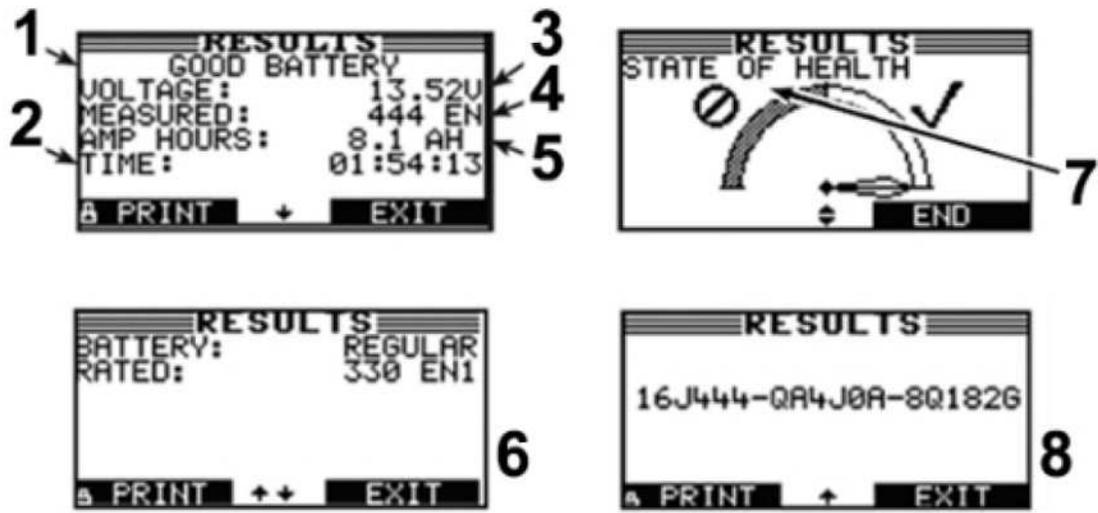

Fig. 5
3. Use the “UP” and “DOWN” arrows to select (or key in) the current value (A) for the test standard according to the battery label.
- a. If battery terminals (Direct Connect) was selected, measure the temperature by placing the sensor about 2.5 cm from the battery (Fig. 5), continue with Step 9.
- At the end of the check, the result is shown on the display of the instrument (Fig. 5) .
- Take note of the result of the check and, if not previously detected by the scanner, proceed by manually entering the VIN code as described in Step 10. Then, according to the result, carry out the operations prescribed in the "Check and Repair Result"(Fig. 5) .